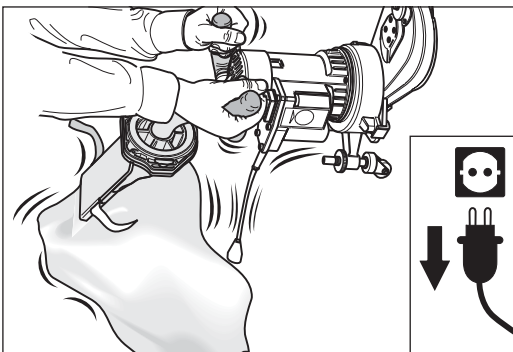

Fig. 17 Shake the dust residue from the machine into the dust bag.
- 5 Shake the dust residue from the machine into the dust bag (Fig. 17).